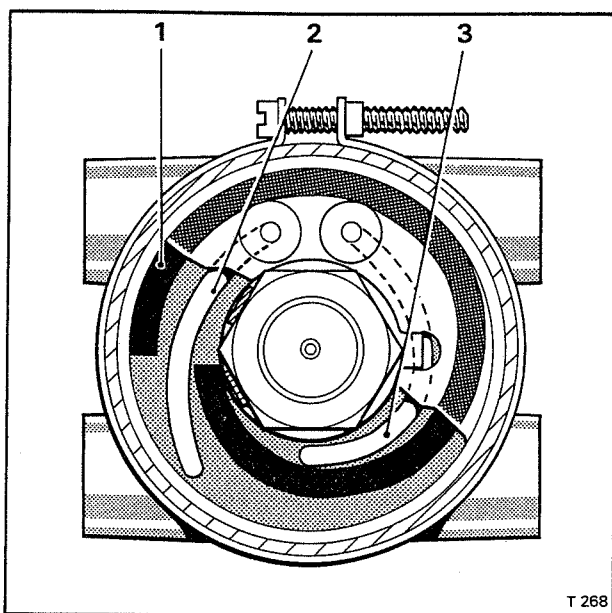

Fig. G22 Height control solenoid valve sealing ring position
4. Note the position of the sealing ring situated immediately behind the flux plate to facilitate assembly (see Fig. G22). Remove and discard the sealing ring.
3. Lubricate the non-electrical components and sealing rings with approved brake fluid (see Chapter D). Note the position of the sealing ring situated between the coil and the flux plate. This ring must be left dry, then cut and suitably positioned to clear the electrical wiring (see Fig. G22).